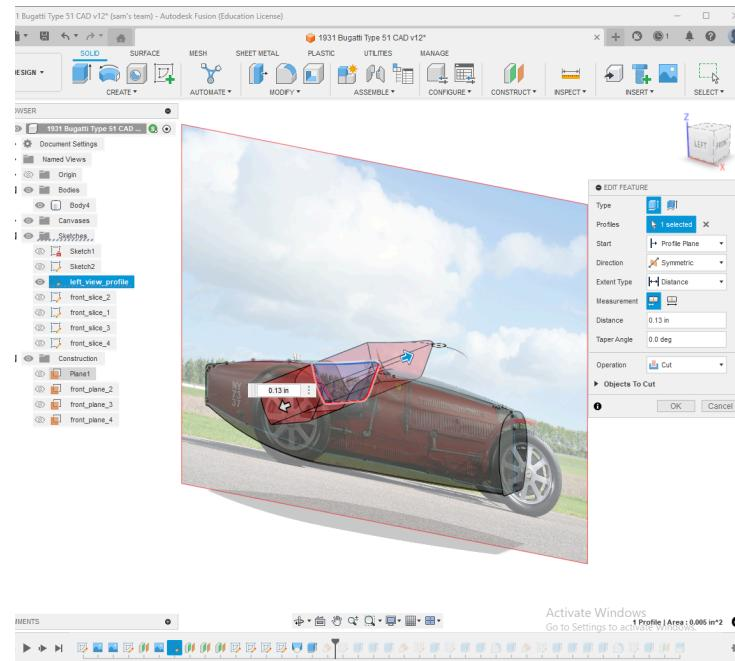

Fig. 13: Symmetrical extrusion forming seating cavity
1. We begin using our left view profile sketch and extruding symmetrically so that a seating cavity is formed (see **Fig.13** for visuals). This creates a canvas on which now you can design your cockpit.